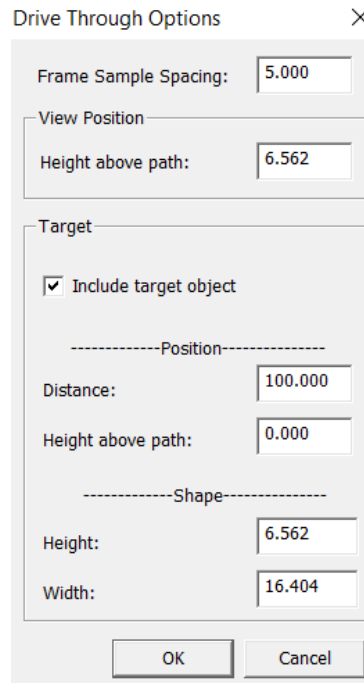

Figure 23-8: Drive Through Options Dialogue Box
5. Press *Options* to bring up the *Drive Through Options* dialogue box as shown in Figure 23-8 below.